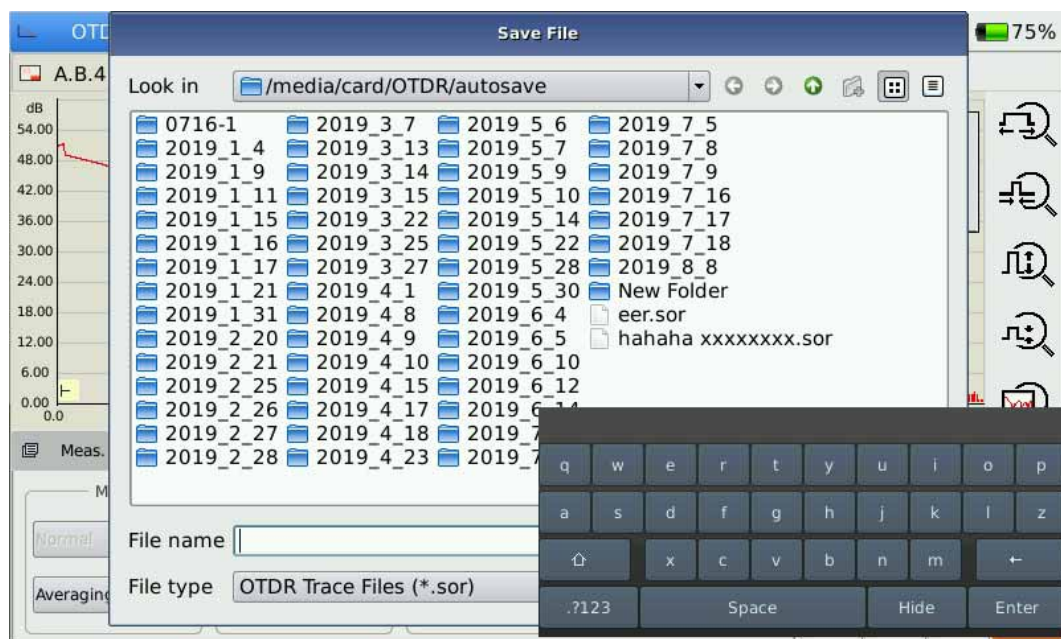

Fig. 7.2 Save dialogue window
Save dialogue window and options are shown below in Fig 7.2:
- ◆ The title bar shows the current folder path, as shown in Fig 7.2: “\SDMMC_DISK\Traces\”.